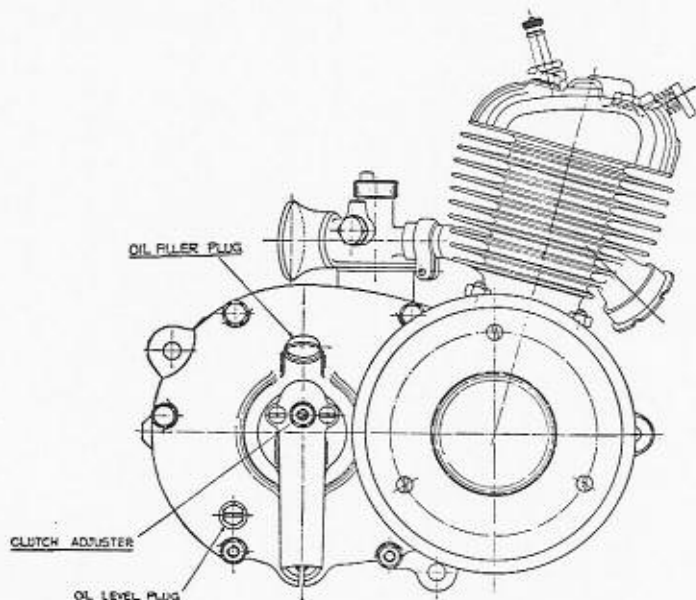

Fig. 1.
**CHAINCASE.** Remove the chaincase oil filler and oil level plugs, see Fig. 1, and with the cycle off the stand, pour in recommended Oil (see page 38) until it runs out at the level plug hole. Refit plugs securely. Examine every 500 miles and top up if necessary.
Every 500 miles inspect level of oil in clutchcase by removing level screw. (See Fig. 1). Top up if necessary with grade of oil previously recommended.
Occasionally check clutch control cable adjustment. There should be a very small amount of slack in the clutch cable when clutch is engaged. Adjust clutch cable by means of adjustment screw on clutch bridge casting (see Fig. 1). Screw adjuster in until there is just a trace of slack in the cable; this is essential, otherwise the clutch may be slightly disengaged and cause slipping. Tighten locknut after adjustment.